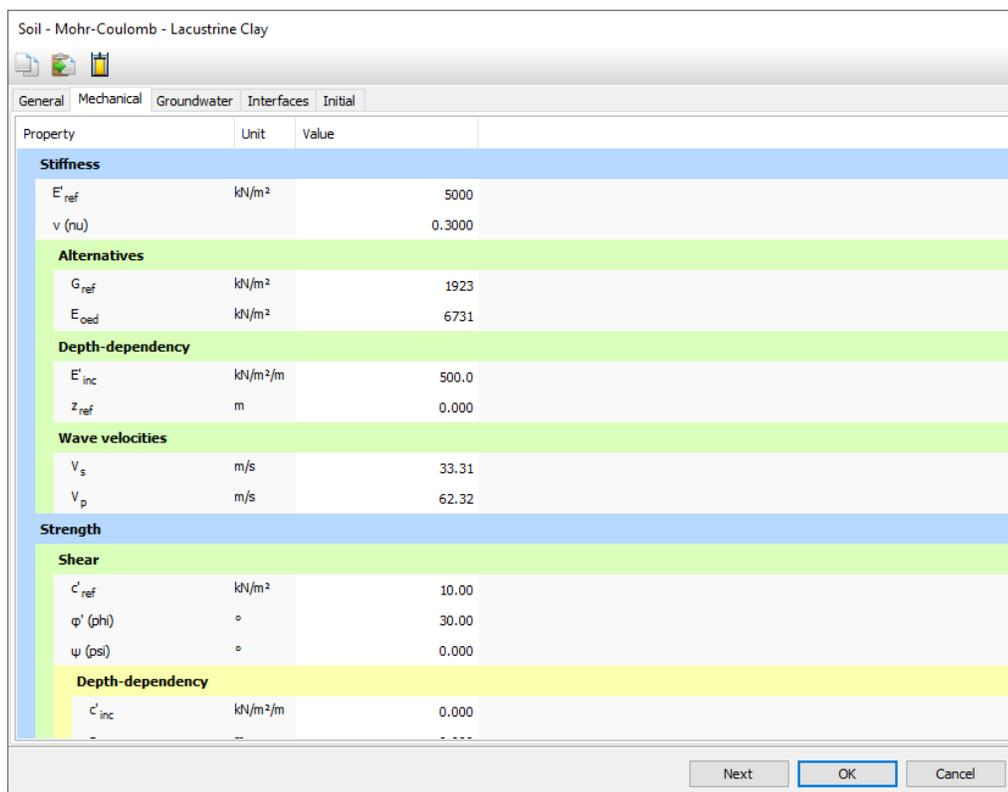

Figure 20: Stiffness Depth-dependency parameters
5. In the stiffness parameters for **Depth-dependency** enter a value of 500 in the E'_{inc} box. Keep the default value of 0.0 m for z_{ref} . Now the stiffness of the soil is defined as 5000 kN/m² at $z=0.0$ m and increases with 500 kN/m² per meter depth (See Figure 20 (on page 28)).